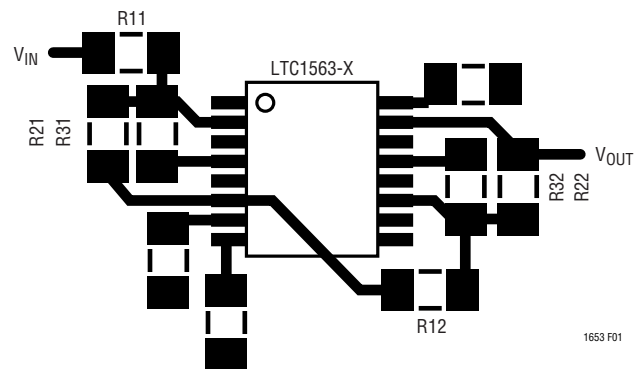

Figure 1. PC Board Layout
**AGND (Pin 7):** Analog Ground. The AGND pin is the midpoint of an internal resistive voltage divider developing a potential halfway between the  $V^+$  and  $V^-$  pins. The equivalent series resistance is nominally  $10k\Omega$ . This serves as an internal ground reference. Filter performance will reflect the quality of the analog signal ground. An analog ground plane surrounding the package is recommended. The analog ground plane should be connected to any digital ground at a single point. Figures 1 and 2 show the proper connections for dual and single supply operation.
**$V^-$ ,  $V^+$  (Pins 8, 16):** The  $V^-$  and  $V^+$  pins should be bypassed with  $0.1\mu F$  capacitors to an adequate analog ground or ground plane. These capacitors should be connected as closely as possible to the supply pins. Low noise linear supplies are recommended. Switching supplies are not recommended as they will decrease the filter's dynamic range. Refer to Figures 1 and 2 for the proper connections for dual and single supply operation.
Figure 1 illustrates a good layout using the LTC1563-X with surface mount 0805 size resistors. An even tighter layout is possible with smaller resistors.